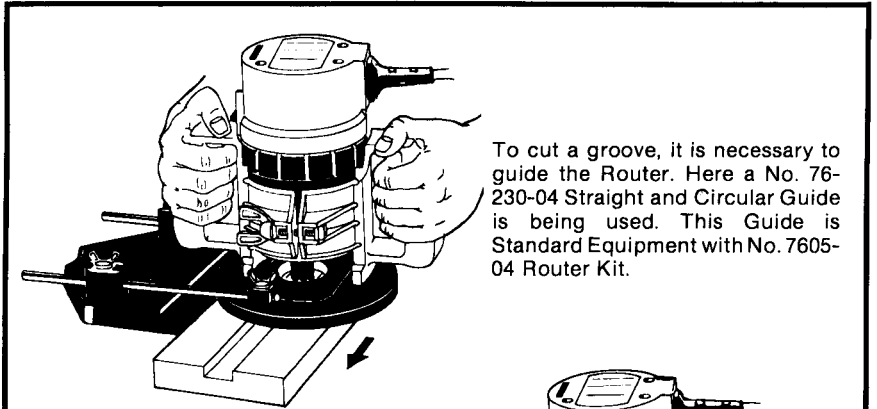

FIG. 12
2. The Router base plate must always have a solid, level surface to ride on so that it won't rock on the workpiece. See Figures 12, 13 and 14 for examples of how to cut grooves.